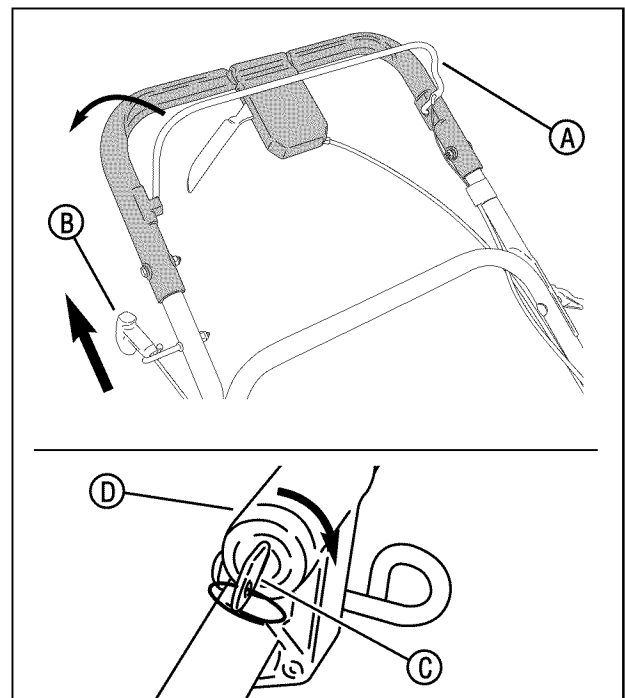

Figure 3: Starting the mower
1. Pull the blade control (A, Figure 3) against the handle.
- Manual Start Models:** Pull the rope start handle (B) to crank the engine.
- Electric Start Models:** Insert the key (C) into the ignition switch (D), located on the right side of the handle above the rope guide. Turn the key to crank the engine.